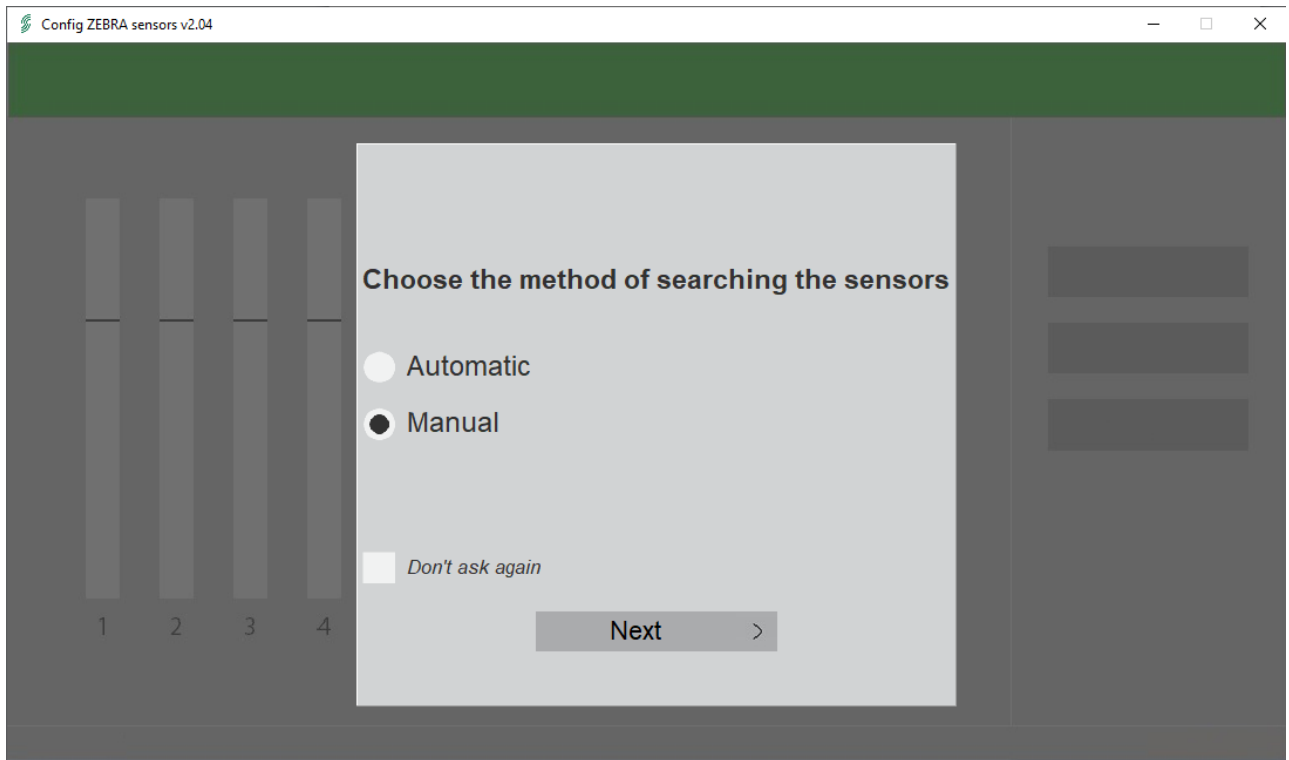

Figure 2.16
2.3.7.2.1 Start the program *Config Zebra Sensors* from the desktop. After the program has been started, it will appear the window of the search type shown in Figure 2.16.
The “Search” button is used to find occupied/free logical numbers, if the manual search was chosen (Figure 2.16). If the automatic search was chosen, the occupied/free logical numbers are determined automatically.